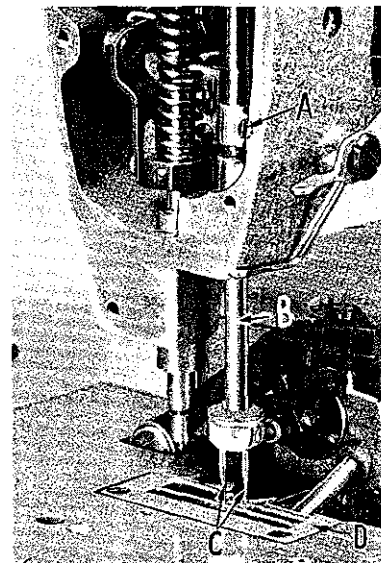

Fig. 2
Align needle bar by using a new set of needles Type 108 GS, of a size to meet the requirements. Loosen screw (A, Fig. 2) and turn needle bar (B) so that the needles (C) center in the front end of the needle slots in the throat plate (D), and retighten screw. The height of the needle bar is set so that the top of the rear needle's eye is $\frac{1}{32}$ inch below the back looper, when point of looper, moving to the left, is even with the left side of this needle.